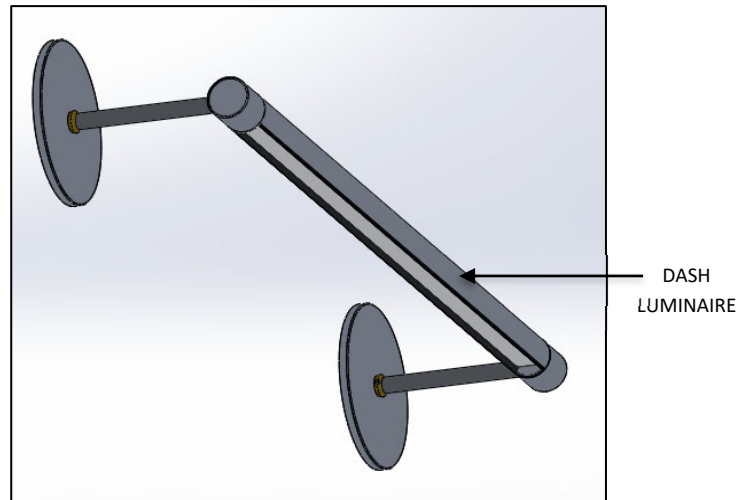

FIG.2 DASH LUMINAIRE (PRE-ASSEMBLED)
1. DASH LUMINAIRE. (Pre-assembled as shown in FIG. 2)